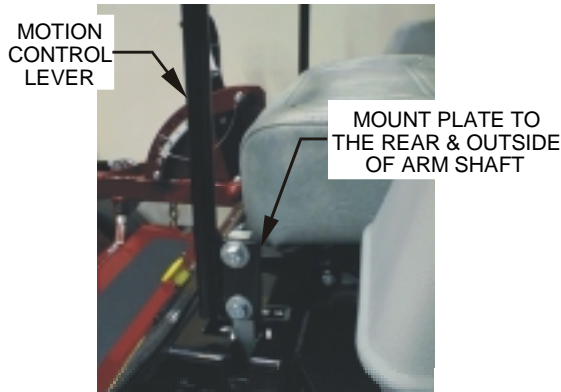

FIG. 1
- 3.6.1 Loosen and remove the two (2) 3/8" x 1" bolts and spring disc washers which attach the motion control levers to the control arm shafts for shipping and the two (2) 3/8" x 1" bolts and spring disc washers which are screwed into the control arm shafts.
- a) Install the left motion control lever onto the control arm shaft (See Fig 1) on the left side of the console. Place the lever (with the mounting plate towards the rear) on the **outside** of the control arm shaft and secure with the bolts and washers. Position the lever so the bolts are in the center of the slots on the lever mounting plate and tighten until snug. Repeat on opposite side of unit.